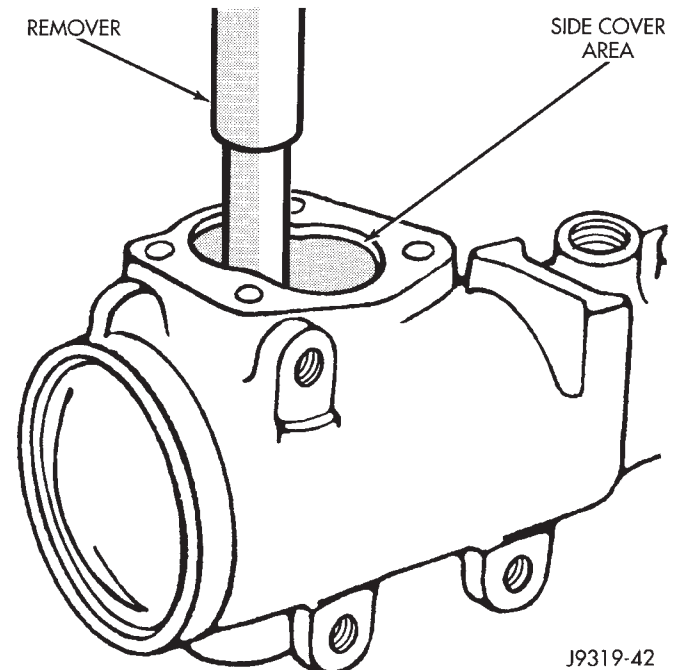

Fig. 10 Needle Bearing Removal
(7) Remove retaining ring with snap ring pliers.
(8) Remove washer from the housing.
(9) Remove oil seal from the housing with a seal pick.
(10) Remove pitman shaft bearing from housing with a bearing driver and handle (Fig. 10).